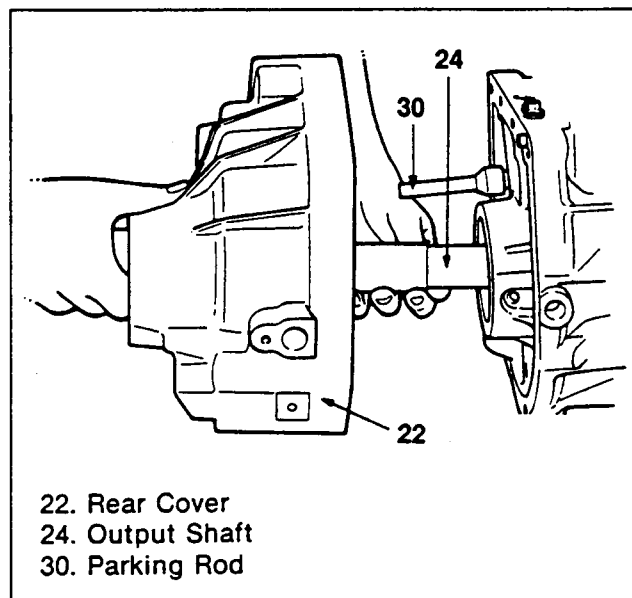

Figure 248. Rear Cover and Output Shaft Installation (2)
3. Install the rear cover to the case (Figure 248).